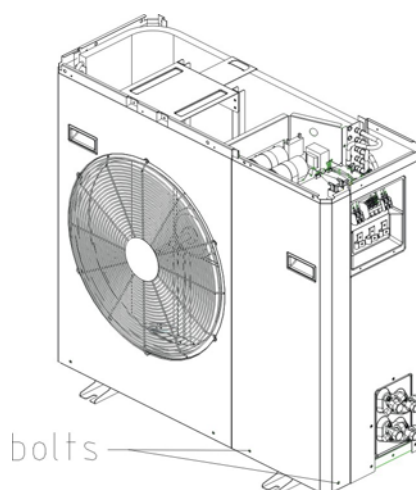

figure5
5. Loosen the bolt of fixed small board. as shown in figure 5. take down the small board.